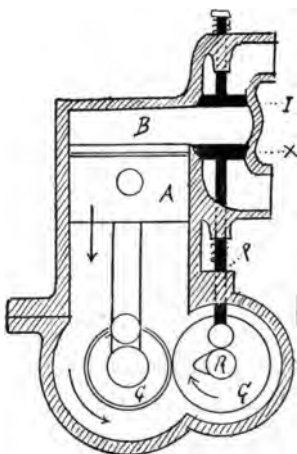

Fig. 7
escape, and the piston moving up compresses the gas, which is ignited and explodes when the piston reaches the point shown in Fig. 7. The explosion drives down the piston, and at the bottom of the stroke the exhaust-valve (X) opens, and through this valve the burned gases are forced